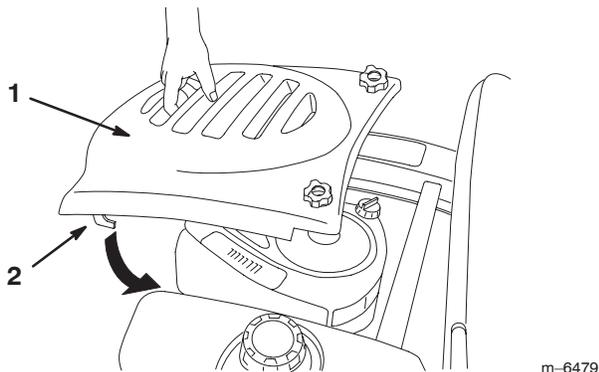

Figure 16
2. To install the hood, put the hooks into the slots and slide forward (Fig. 16).